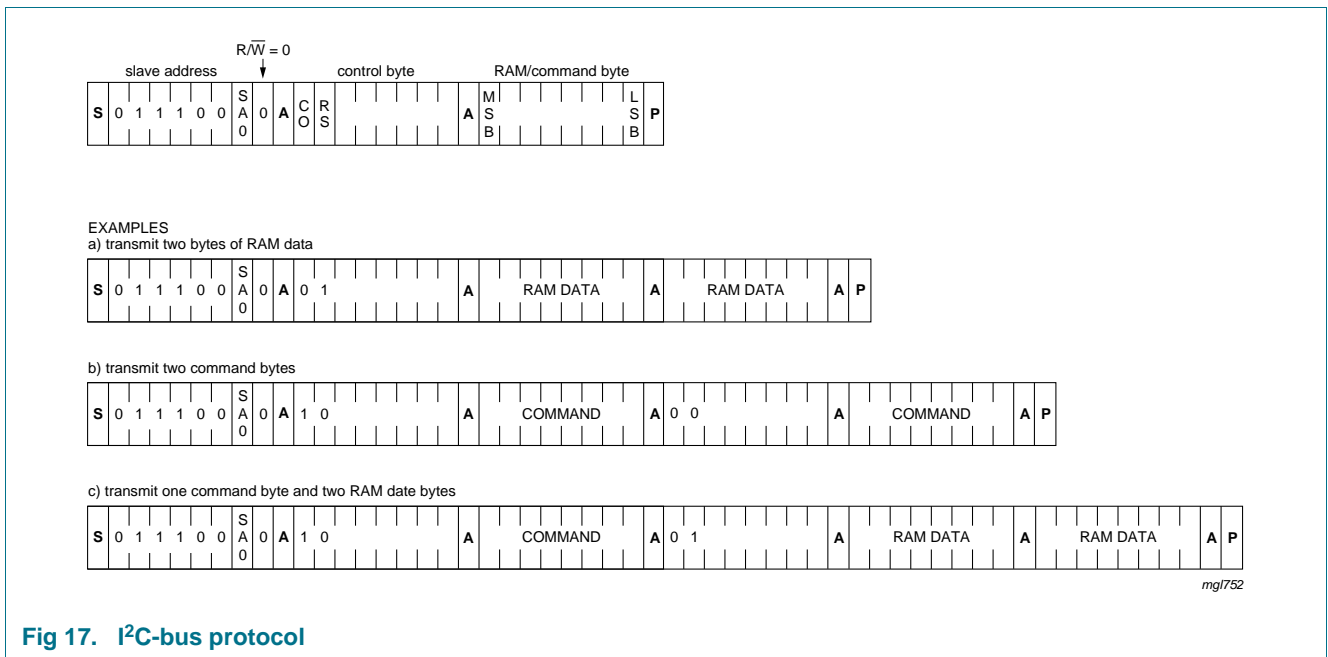
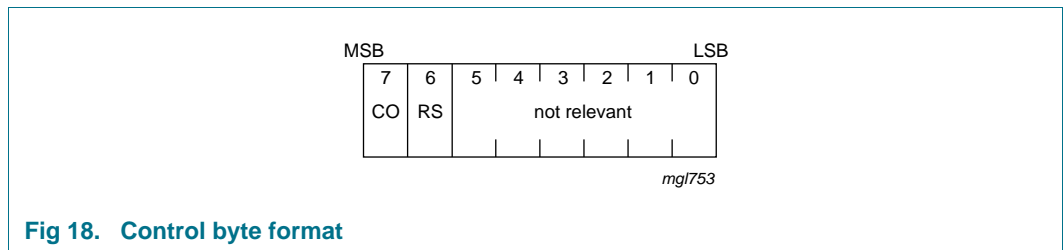

Fig 17. I2C-bus protocol
Fig 18. Control byte format
The I2C-bus protocol is shown in Figure 17. The sequence is initiated with a START condition (S) from the I2C-bus master which is followed by one of the available PCF85133 slave addresses. All PCF85133 with the same SA0 level acknowledge in parallel to the slave address. All PCF85133 with the alternative SA0 level ignore the whole I2C-bus transfer.
After acknowledgement, the control byte is sent, defining if the next byte is a RAM or command information. The control byte also defines if the next byte is a control byte or further RAM or command data (see Figure 18 and Figure 17). In this way it is possible to configure the device and then fill the display RAM with little overhead.